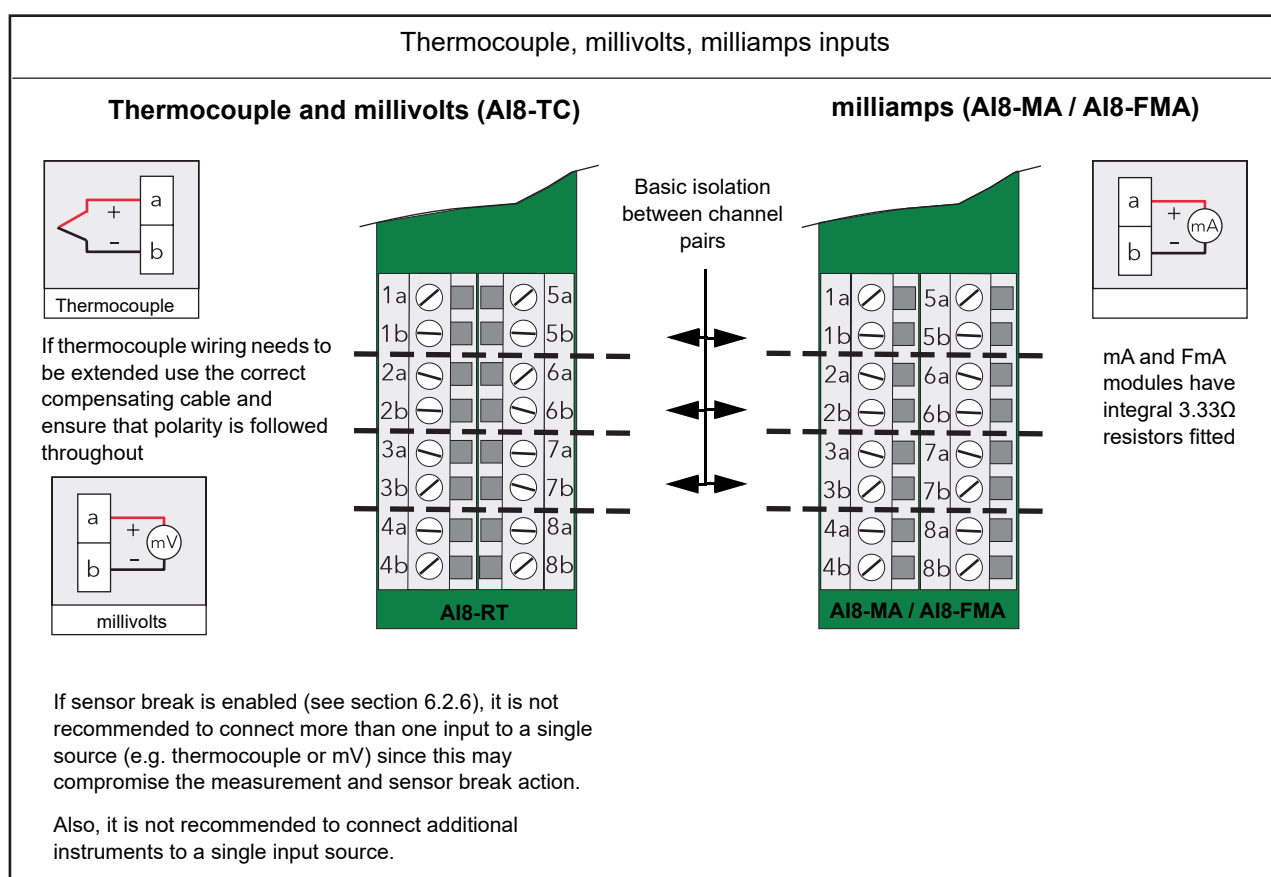

Figure 21 Module pinout for thermocouple, mV and mA inputs
- **AI8-MA or AI8-FMA** — eight isolated channels of current (mA) inputs, standard polling rate and fast polling rate, respectively. See Figure 21 for terminal pin-out details.
- **AI8-TC** — eight channels of thermocouple inputs (with cold junction compensation) or voltage (mV) inputs, standard polling rate. See Figure 21 for terminal pin-out details.